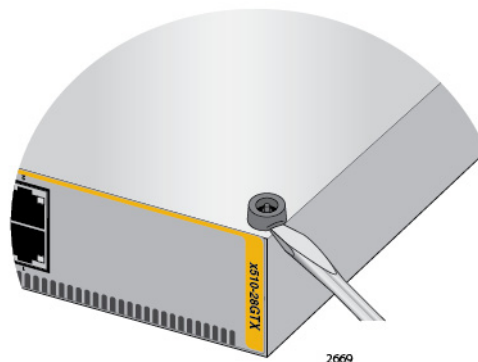

Figure 18. Removing the Rubber Feet
2. Using a flat-head screwdriver, pry the rubber feet from the bottom of the switch. Refer to Figure 18.